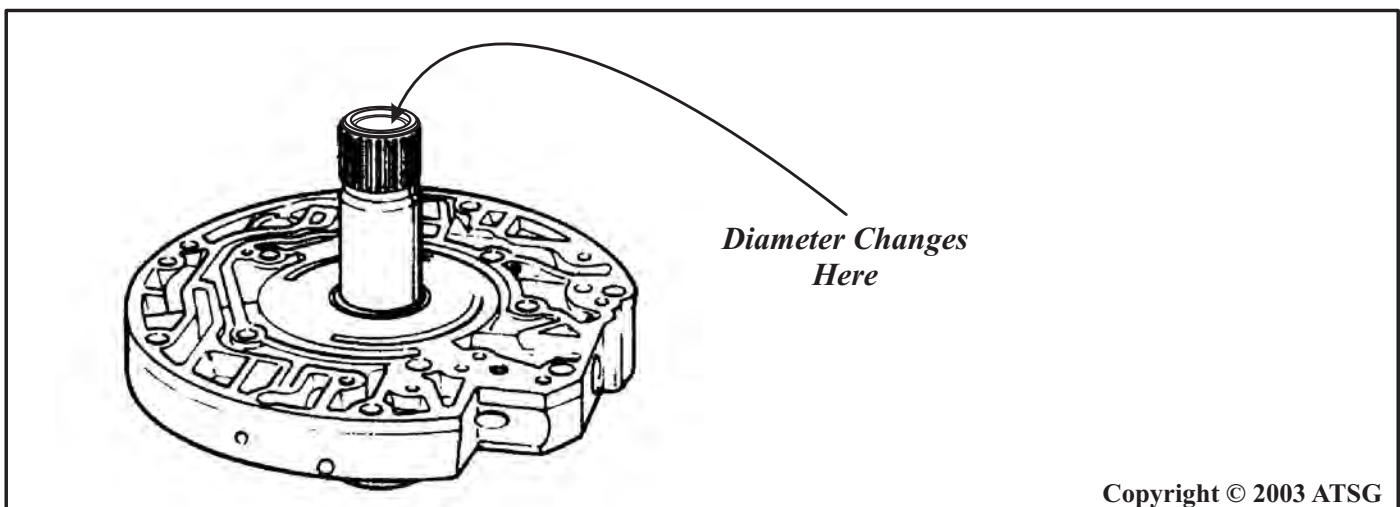

Figure 7
- (2) **OIL PUMP COVER** - Increased diameter of the bushing journal area in the stator shaft, to accommodate the increased diameter of the new turbine shaft, as shown in Figure 7.
- (3) **TORQUE CONVERTER** - Increased spline diameter (298mm only) in the converter turbine, to accommodate the new turbine shaft.